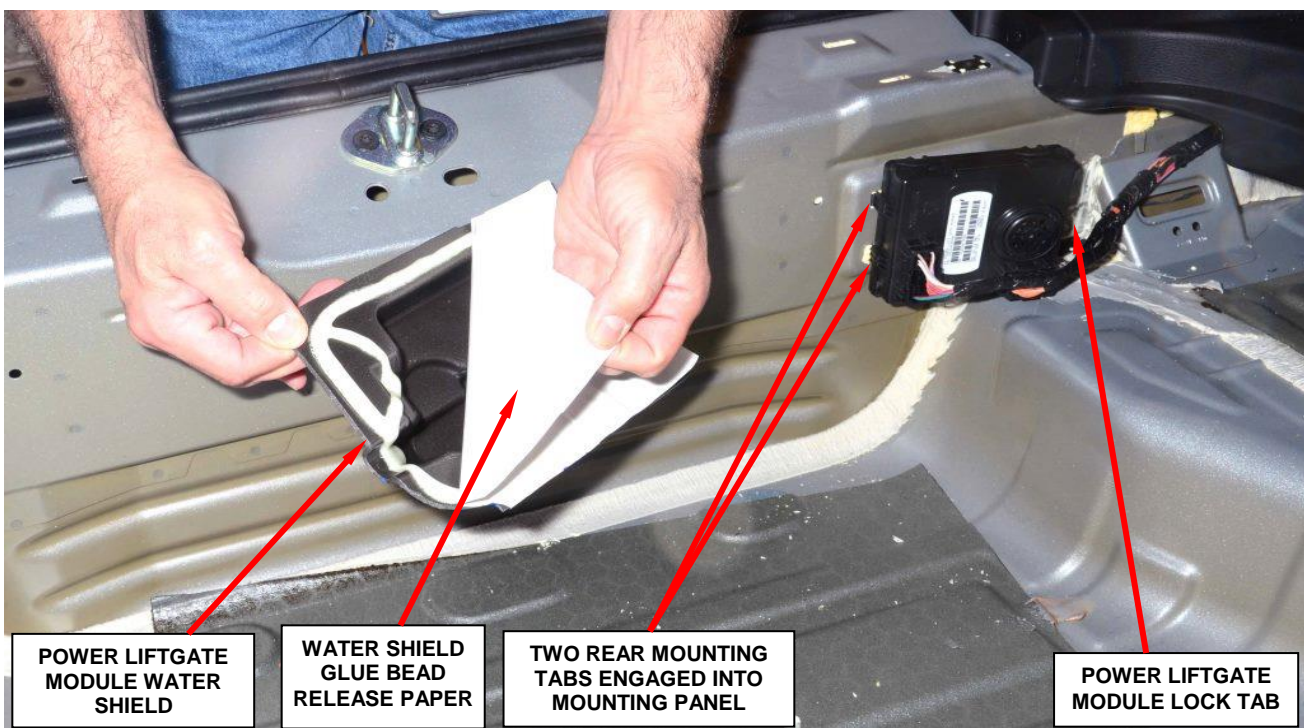

Figure 20 – Engage the PLG Module Lock Tab and Install the Water Shield at the Same Time
11. Partially install the PLG module (rear mounting tabs only) (Figure 20).
12. Remove and discard the PLG module water shield glue bead release paper (Figure 20).